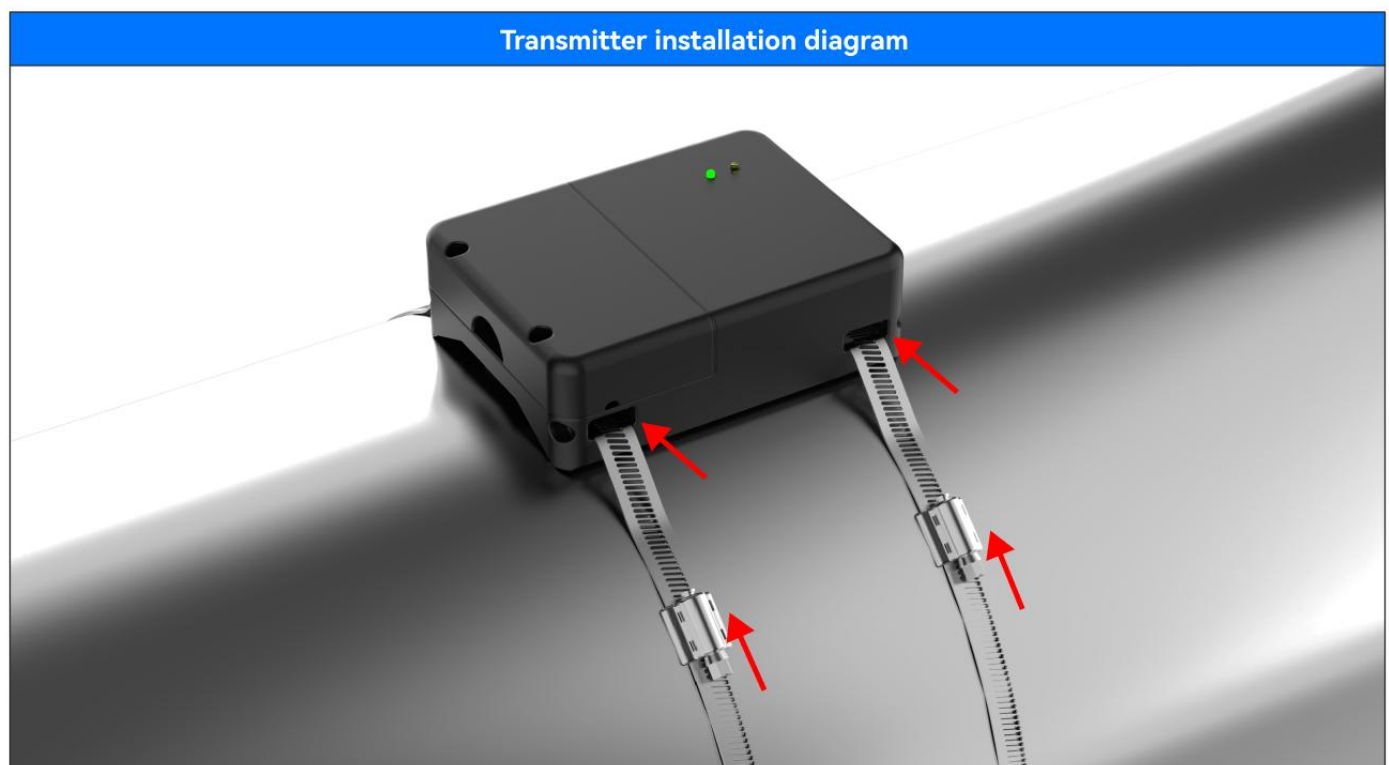

Figure 3.29
3. Tighten the screws in the throat band until the transmitter is firmly fixed to the shaft, as shown in Figure 3.29.